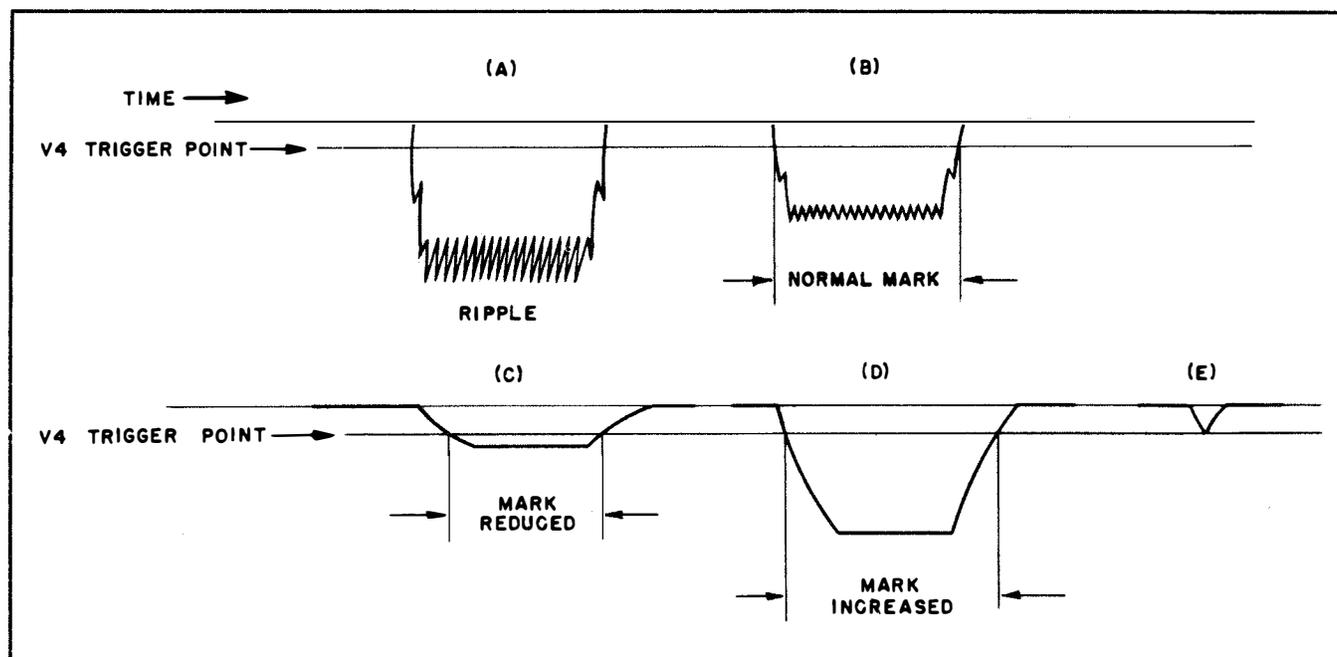

Figure 2-5. Bias Control Functions
(1) Input to tube V4A is from the BIAS CORRECT dual potentiometer R11 which varies the keyed DC level as well as the amount of filtering on the signal between rectifier V3 and trigger tube V4. Resistor R13 and capacitor C5 provide a minimum of filtering in the circuit. The function of the BIAS CORRECT potentiometer is to vary the relation of the mark to space duration (bias) so that if the signal from V3 has bias distortion, such distortion may be corrected by adjustment of R11. Figure 2-5 illustrates waveforms at the input and output of R11 for various settings. The waveforms of a mark pulse applied to R11A is shown at (A). The output from R11B as applied to V4 is illustrated at (B) for a half way setting of R11. A line illustrating the level of voltage required to trigger V4 is drawn in Figure 2-5 and where this line intersects with the waveform of voltage, a measurement of the mark duration that will be secured from the output of V4 is shown. When the BIAS CORRECT potentiometer is retarded, a waveform of voltage as illustrated at (C) will be secured at the output and the mark duration as secured from V4 is reduced. When the BIAS CORRECT potentiometer is advanced, the mark duration will be lengthened at the output of V4 to the extent indicated at (D). In actual practice, the trigger circuit triggers "off" at a lower potential than the "on" potential and this is not considered in Figure 2-5. In equipment designed to operate over a limited range of keying speeds, the R11B section of the BIAS CORRECT potentiometer would not be required, as a fixed amount
of filtering could be established. Operation of the R-466/UC Carrier Telegraph Receiver is designed for keying speeds of 20 cps to 200 cps with bias adjustments of at least  $\pm 20\%$ . If a fixed amount of filtering were used between V3 and V4 to provide bias adjustments at 20 cps keying operation, the bias adjustment at 200 cps would be very critical and the amplitude of voltage is reduced to the extent of making proper operation impossible. (See waveform E in Figure 2-5).